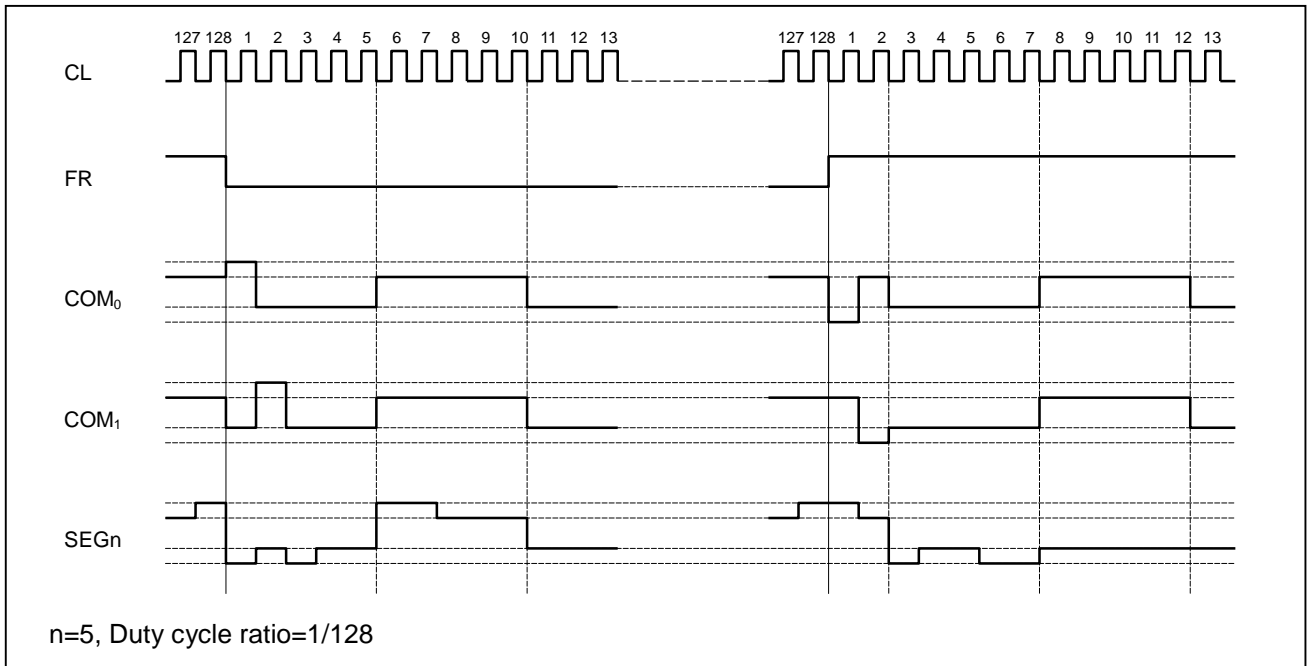

Fig. 2-2. LCD driving waveforms in the n-line inversion mode
The display timing generator is used to generate the common timing signal (CL) and the internal frame signal (FR). The FR signal adopts the 2-frame AC driving method, in which the FR signal is toggled to alternate the crystal polarization on an LCD panel. It toggles on every frame in the default setting or once every N frames in the N-line inversion mode setting, as illustrated in Fig.2-1 and Fig.2-2.